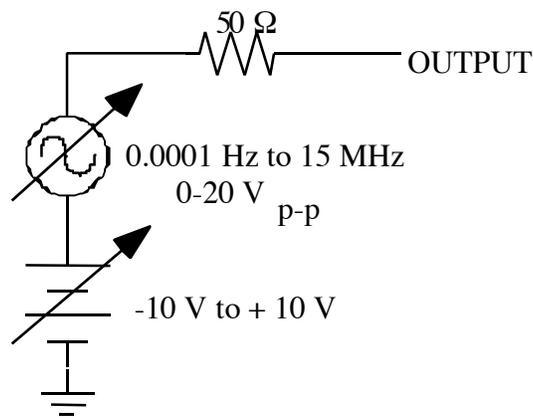

Figure 3 - Functional circuit of a signal generator
The signal generator is a voltage source which can produce various time dependent signals waveforms from 0.0001 Hz to about 13 MHz. We have not used the terminology peak-to-peak in class but it means the voltage from the most positive point of a voltage waveform to its most negative point. Typically, a waveform such as a sine wave is symmetric about zero but, for various reasons, you may need to shift the entire waveform by adding a voltage in series with it. This is known as an offset voltage. The signal amplitude of the function generator is adjustable up to about 20 volts peak-to-peak (20 Vp-p) with an adjustable DC offset of up to 10 volts positive or negative. The generator has a 50 ohm output impedance (see Figure 3) which can affect your selection of resistor values in several experiments.
Pay careful attention to procedure for setting the output impedance of the signal generator. This does not actually change the resistance in Figure 3, but changes how the output voltage is calculated. For example, if you placed a 50Ω load on the generator and programmed the generator in 50Ω mode to output 1 volt, then you would really get 1 volt as measured by an external meter. However, if you put a 1000Ω high impedance load at the output of the generator and you were still in 50Ω mode, almost all of the generator voltage would be developed across the load resistance because it is so much larger than the 50Ω resistance of the generator. Programming the generator to HIGH Z will let the
2. Referring to **Figure 3** in the lab: “If the maximum amplitude of the signal is 2.5 volts, and the minimum amplitude is -3 volts, what is the DC offset? Explain your answer.
4. Using **Figure 3**, explain what setting the output impedance of the function generator to high impedance does.